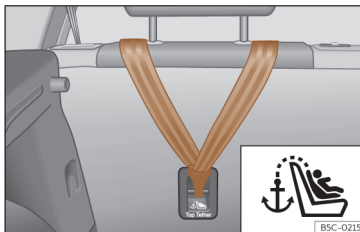
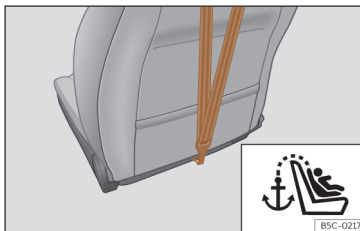

Fig. 39 Rear part of the rear seats: Top Tether belt anchor.
Fig. 40 Rear of front passenger seat backrest: Top Tether belt anchor (not available on all markets).
is located on the rear of the rear seat backrest and of the front passenger seat backrest¹⁾ (identified with the symbol ) and provides better retention >>> **Fig. 39**, >>> **Fig. 40**.
- Slide the belt and secure it properly with the anchor on the rear seat backrest >>> **Fig. 39**, >>> **Fig. 40**.